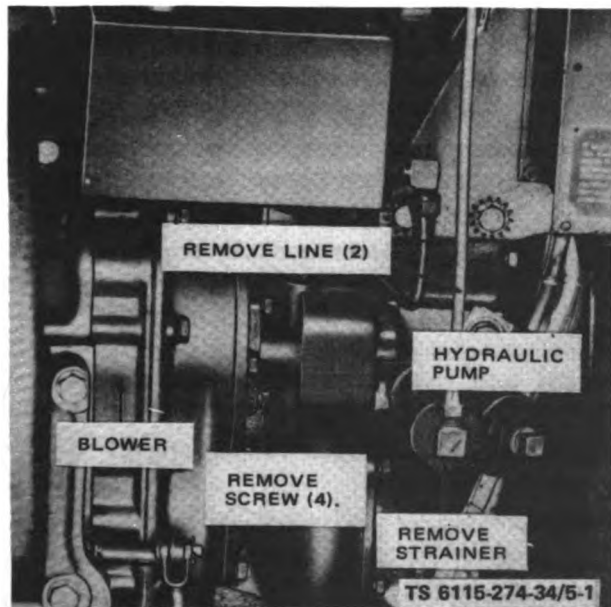

Figure 5-1. Hydraulic Pump, Removal and Installation
(1) Refer to figure 5-1 and the following steps to remove the hydraulic pump.
(1) Refer to figure 5-1 and attach pump to blower housing with screws.
(2) Connect hydraulic lines.
(3) Install strainer.
(4) Install plug and service hydraulic tank.